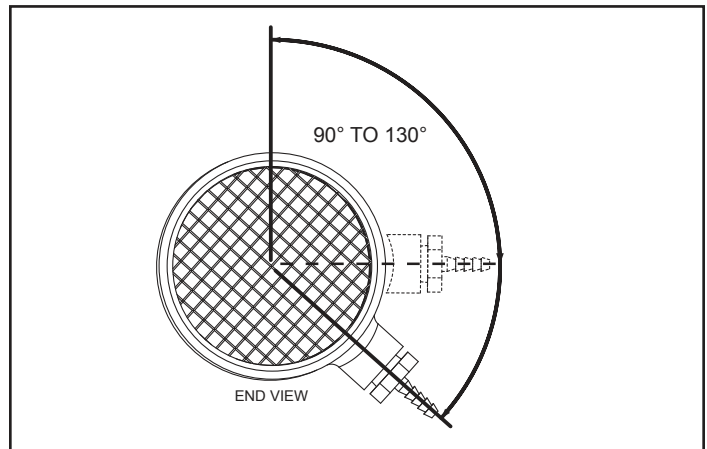

Figure 15. Orientation of Intake Air Tee Fittings
Ensure the hose barb installed in the Tee fitting **IS NOT** facing down towards the ground (180° - 6 o'clock position) before venting installation begins. The barb fitting must be angled between 90° and no more than 130° as shown in **Figure 15**. If the barb fitting is facing down, residual condensate that occasionally forms in the intake air pipe can drain into the Blocked Intake Air switch through the attached sensing tube and damage the switch. This condition can also lead to Blocked Intake Air fault conditions and associated control system lock outs.
The intake air Tee fitting is factory installed with the 1/2 inch branch and hose barb angled to the right at approximately 130° when viewed from the end. See **Figure 15**. The Tee fitting's 1/2 inch branch and hose barb must not be angled any lower (towards the ground) than this factory specification. Angling higher, up to a 90° position, will not adversely affect operation and is acceptable.
Inspect the angle of the Tee fitting's 1/2 inch branch and hose barb while viewing from the end of the Tee. See **Figure 15**. If the angle of the Tee fitting 1/2 inch branch and hose barb is lower than shown, adjustment will be necessary. To adjust the intake air Tee fitting angle follow the steps listed below.
- Adjust the angle of the Tee fitting so that the 1/2 inch branch and hose barb are at the proper angle as shown in *Figure 15*.